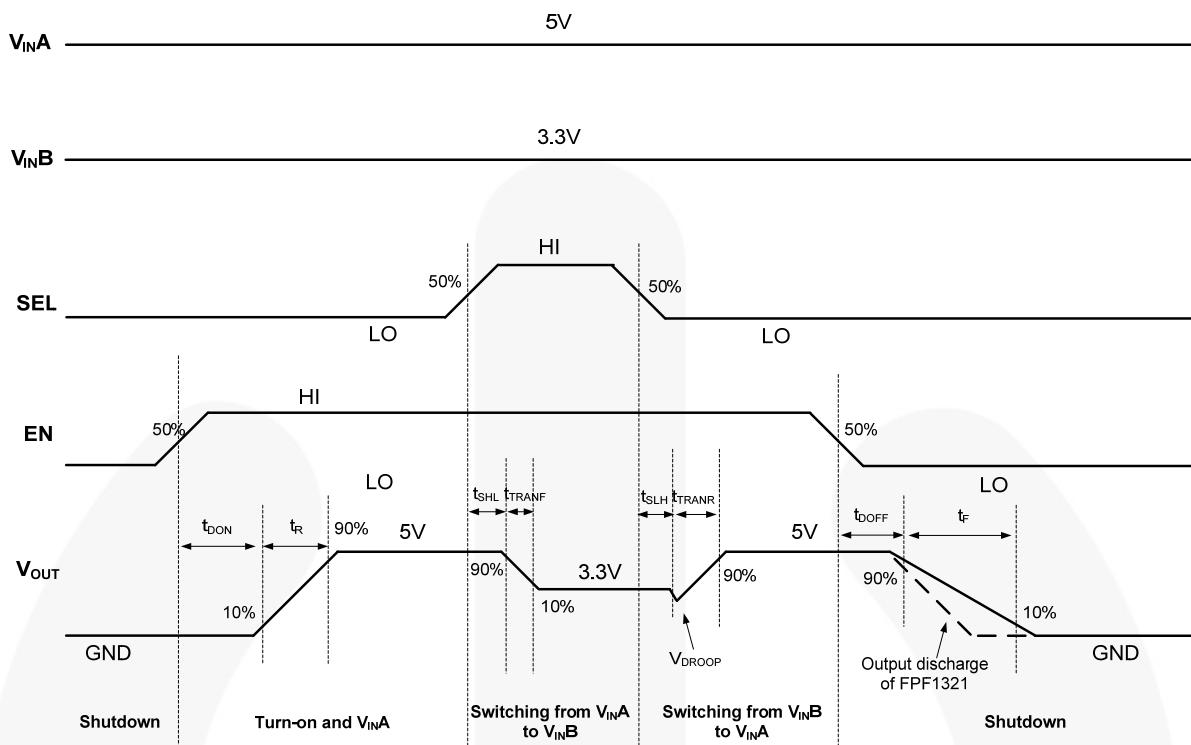

Figure 5. Dynamic Behavior Timing Diagram
4. $t_{DON}/t_{DOFF}/t_R/t_F/t_{TRANR}/t_{TRANF}/t_{SLH}/t_{SHL}$ are defined in Figure 5.